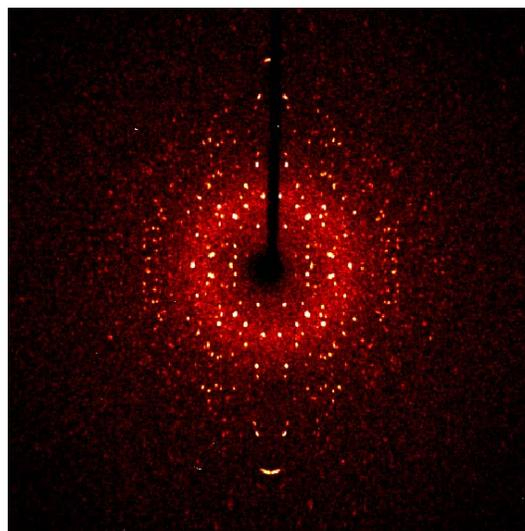

Figure 5.33 – A 360° Phi scan on a good quality crystal
4. Click **Drive + Scan**. Since these are evaluation scans, there is no need to request correlated images or new darks. The shutter opens and the phi scan begins. The resulting Phi 360° image is shown in Figure 5.33. The crystal diffracts nicely with lots of sharp spots. Figure 5.37 shows a Phi 360° scan with a bad crystal.